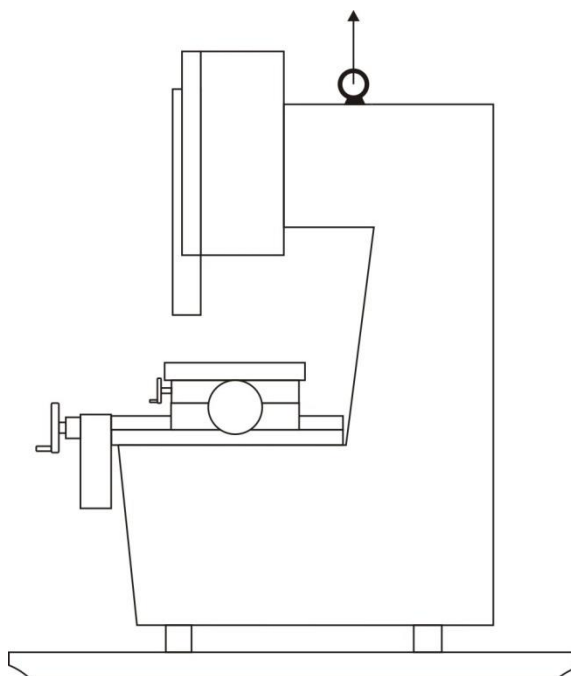

fig. 8
3. By using a crane lift the machine hooked in the ring on its top - fig. 8 and unload from the skid.
Handle the unpacked machine by a crane. Hook the crane rope into the ring on the top of the machine body as shown in fig. 8.